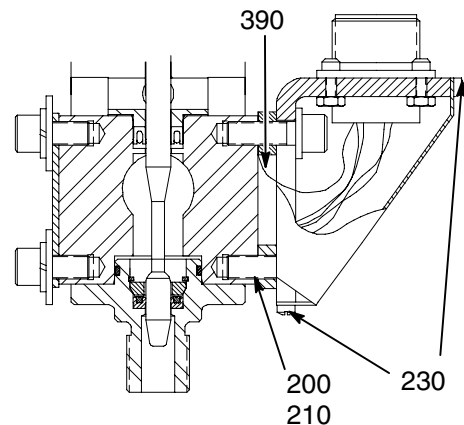

Fig. 13
5. Reconnect the cable receptacle to the automatic dispense valve. See Fig. 13.
- b. Ensure the ground wire (380) is connected to the bracket (330).
- c. Connect the receptacle to the dispense valve body. Then secure it with the two socket head screws (200) and washers (210).
- d. Reattach the receptacle cover. Then secure it with the two screws (230).